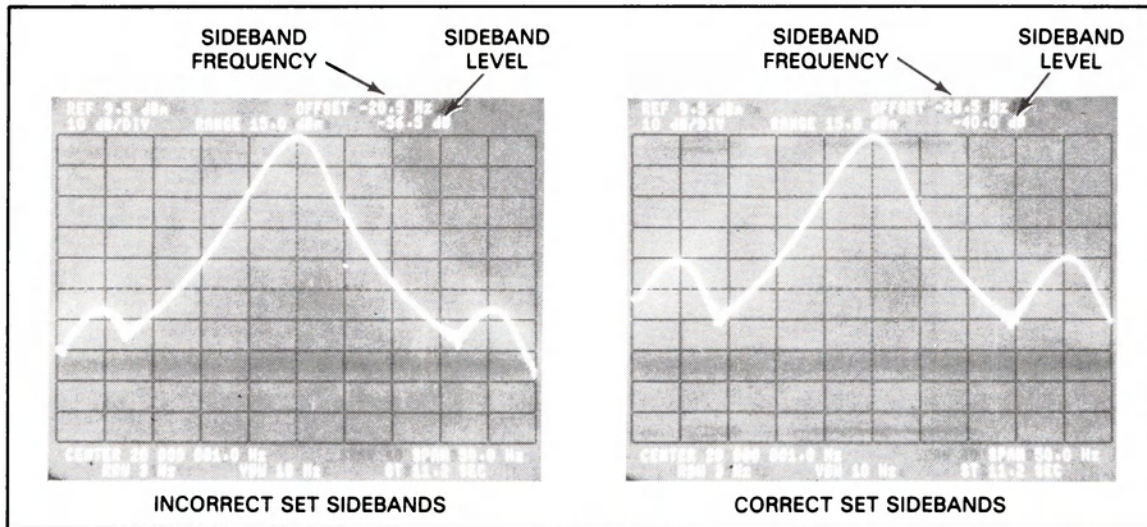

Figure 7-16. PM Discrete Tone Accuracy Test Adjustments
g. Adjust the -hp- 3312A amplitude until the 20 Hz sidebands are approximately 40 dB below the 20 MHz carrier. (See Figure 7-16)